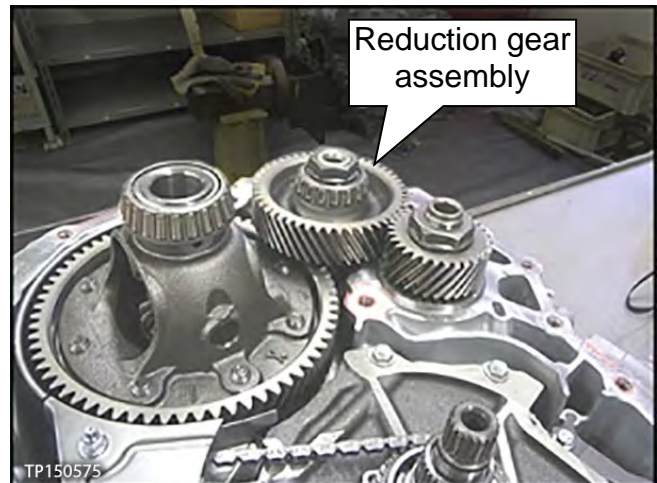

Figure 77
19. Install the new reduction gear assembly into the CVT case (see Figure 77).